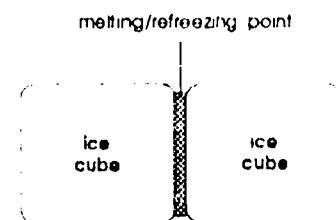

Figure 2. Ice cubes refreeze when they touch.
4. Place the ice cubes together so they touch; allow them to refreeze (see Figure 2).